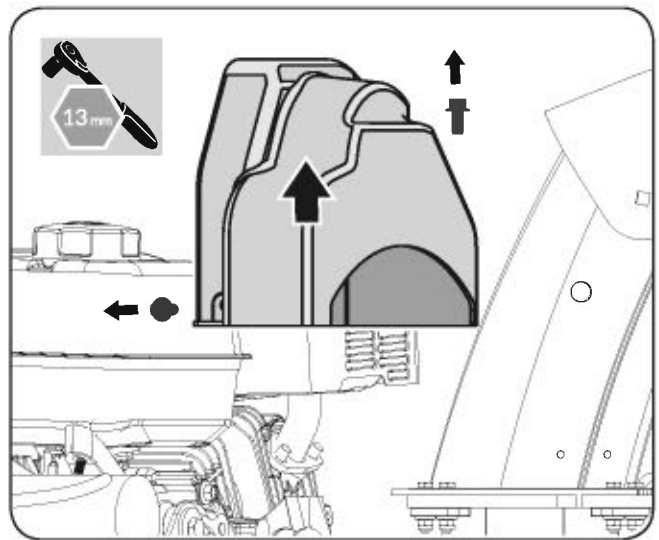

Figure 20a
2. Remove the two screws that hold the belt cover in place and set the cover aside. (See **Figure 20a**)
- Remove the two screws that hold the belt cover in place and set the cover aside. (See **Figure 20a**)
- Remove belt cover. (See **Figure 20a**)